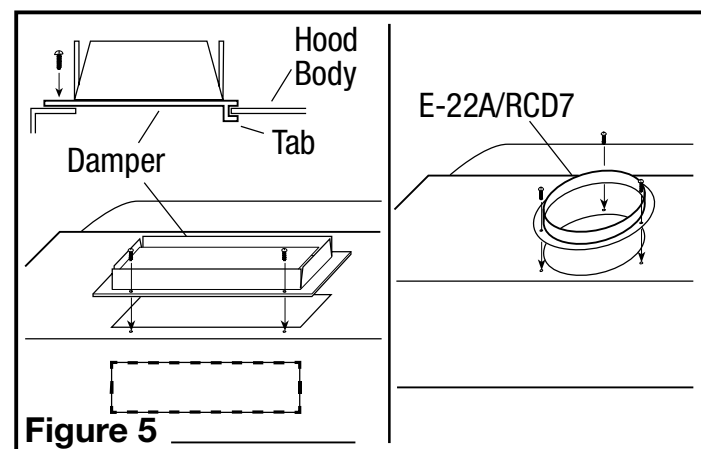

Figure 5
- For 3-1/4" x 10" vertical or horizontal ducting, install the damper assembly to the hood by sliding the tabbed section of the damper under the hood body and securing with the two provided screws. For 7" round ducting, secure either a model E-22A or RCD7 Duct Collar (not included) to the hood with the three provided screws. Using approved duct tape, tape around the collar to seal off any air leaks (**Figure 5**).